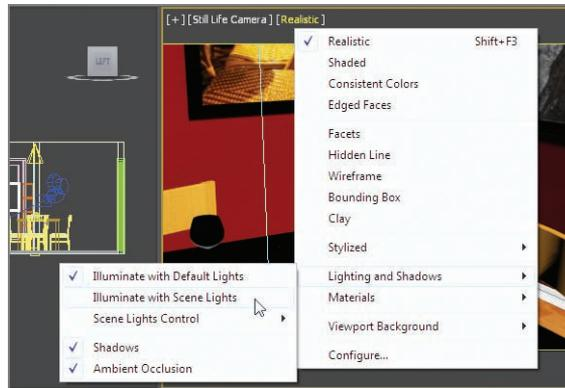

FIGURE 14.12 The Shading Viewport Label menu
- Click the Shading Viewport Label menu again, go down to Lighting And Shadows, and choose Illuminate With Scene Lights, as shown in Figure 14.12.